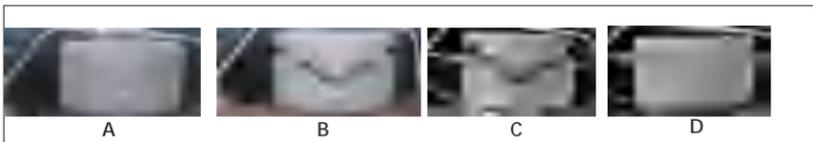

Figure 6
A. Open the pump door (Figure 6-reference A) to the OPEN position.
B. Place the pump tube in the impeller (Figure 6-reference B and C).
C. Close the pump door completely to the CLOSE position (Figure 6-reference D).